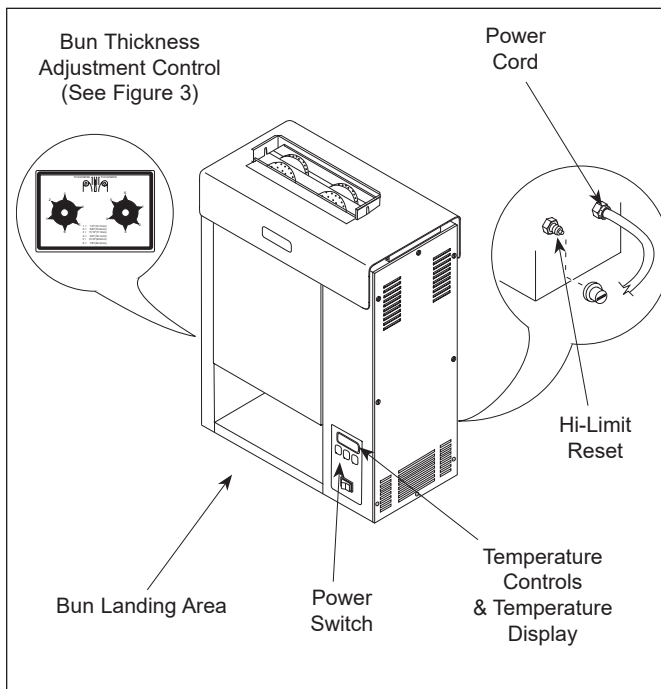

Figure 2. VCT-2000 Toaster
NOTE: The temperature display (Figure 2) will flash “LO” until the toaster reaches its preset operating temperature. When the toaster approaches the preset temperature of 600°F (316°C), “USE” appears in the temperature display and the unit is ready to toast buns. If “USE” does not appear in the window after approximately 30 minutes, contact your Authorized Service Agency.
3. Drop Crowns and Heels into the slot (Figure 2).
4. Toasted buns will drop into the Bun Landing Area (Figure 2) in approximately 10 seconds.
A Hi-Limit Control turns off electrical power to the heater and control circuits if the platen overheats. To reset the control, allow 10-15 minutes for the unit to cool, then locate the Reset Button at the rear of the unit. Remove the black protective cap, press the Reset Button, and reinstall the protective cap (Figure 2).